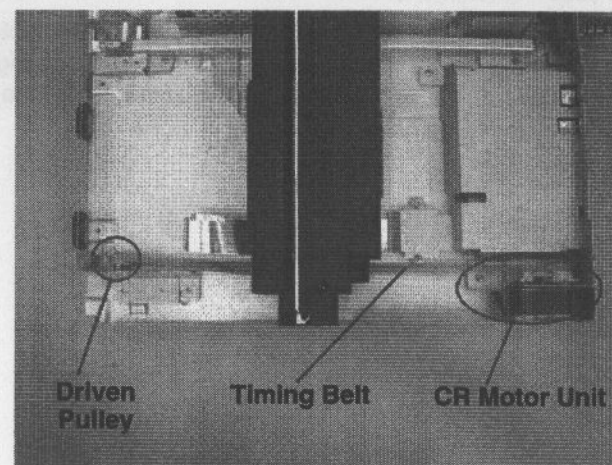

**Figure 4-21. Driven Pulley Assembly Removal (2)**
5. Remove the driven pulley assembly from the frame toward the arrowed direction. (See Figure 4-21.)